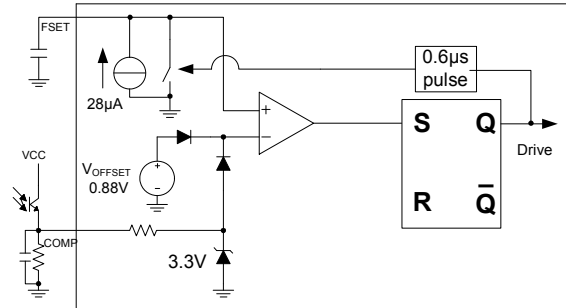

Figure 11: Schematic for Voltage-Controlled Oscillation
The capacitor C_{FSET} sets the maximum frequency as shown in equation (9). This capacitor is charged by a constant-current source shortly after the primary side switch turns on (about 0.6μs delay), and its voltage is compared with the COMP voltage from feedback loop (see Figure 11).